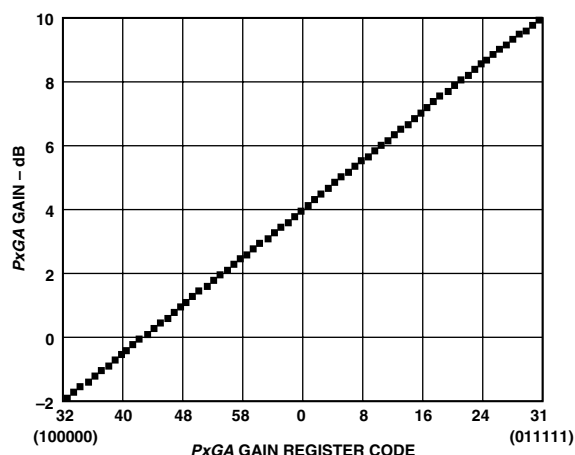

Figure 19. PxGA Gain Curve
The same Bayer pattern can also be interlaced, and the VD selected mode should be used with this type of CCD (see Figure 18b). The Color Steering performs the proper multiplexing of the R, G, and B gain values (loaded into the PxGA gain registers), and is synchronized by the user with vertical (VD) and horizontal (HD) sync pulses. For more detailed information, see the PxGA Timing section. The PxGA gain for each of the four channels is variable from -2 dB to +10 dB, controlled in 64 steps through the serial interface. The PxGA gain curve is shown in Figure 19.